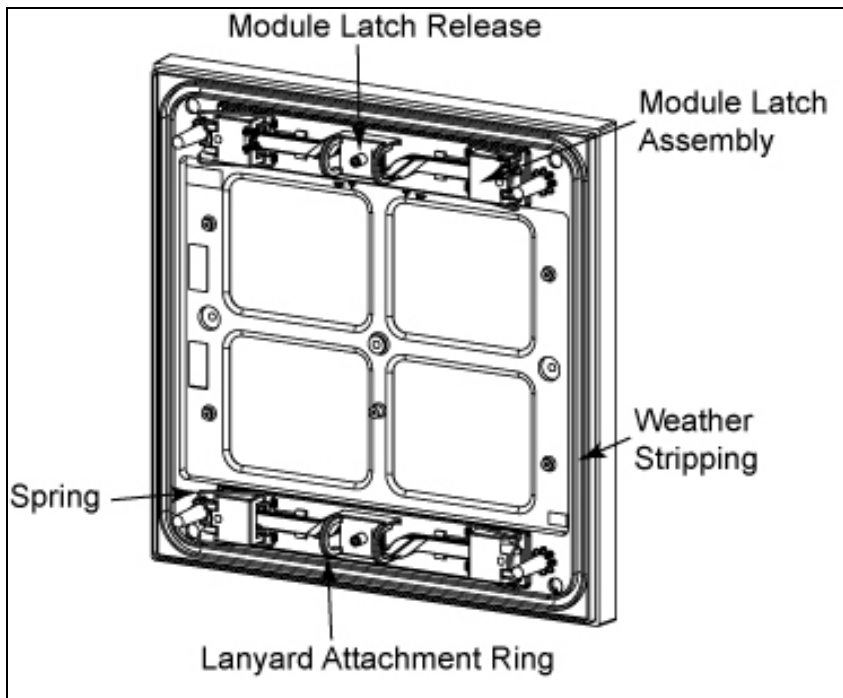

Figure 1: Module Rear
4. Disengage the module upper and lower latch release with a $\frac{1}{8}$ " Allen wrench and turning the release approximately $\frac{1}{2}$ turn clockwise. Refer to **Figure 1**.